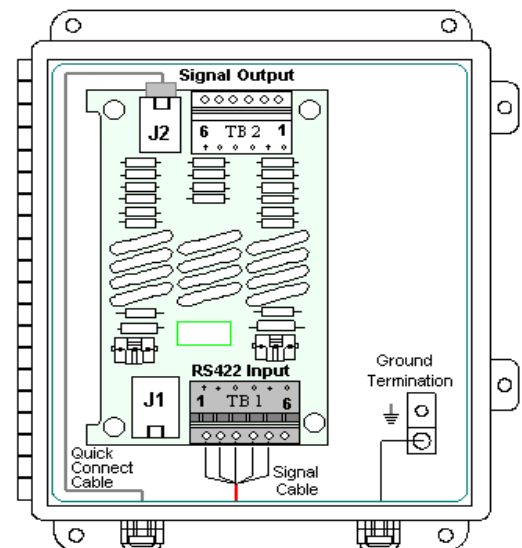

Figure 7: RS-422 Surge Suppressor
1. To replace the surge suppressor (0P-1146-0031), first disconnect the signal connections (refer to **Figure 7**).